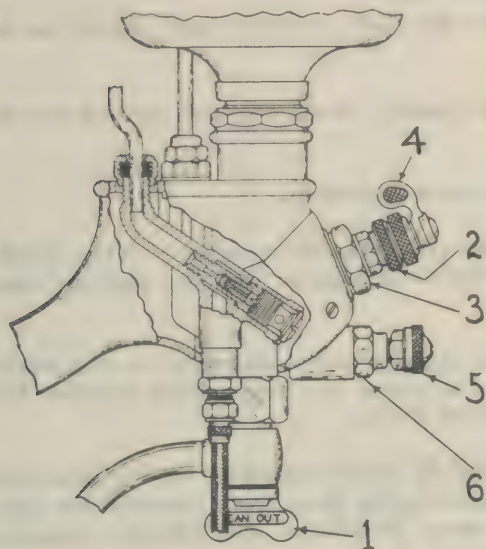

Figure No. 3
Procedure: (See Figure No. 3).
After a certain amount of usage, valve packings will naturally wear out. (See Figure No. 3 Master Valve (2).)